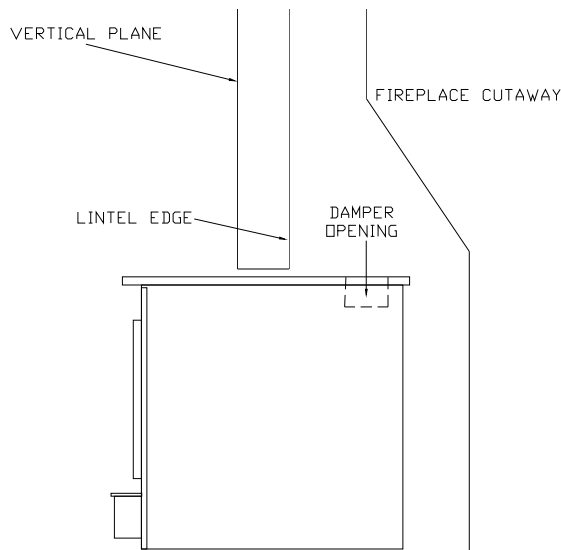

FIGURE 2 POSITIONING
When positioning the heater, the following conditions MUST be met! (See Figure 2)
1. The front of the damper opening must be BEHIND the rear edge of the lintel to ensure proper draft. (See Figure 2)
After the unit is positioned, as shown in Figure 2, mark the mounting position of the trim panels as follows: